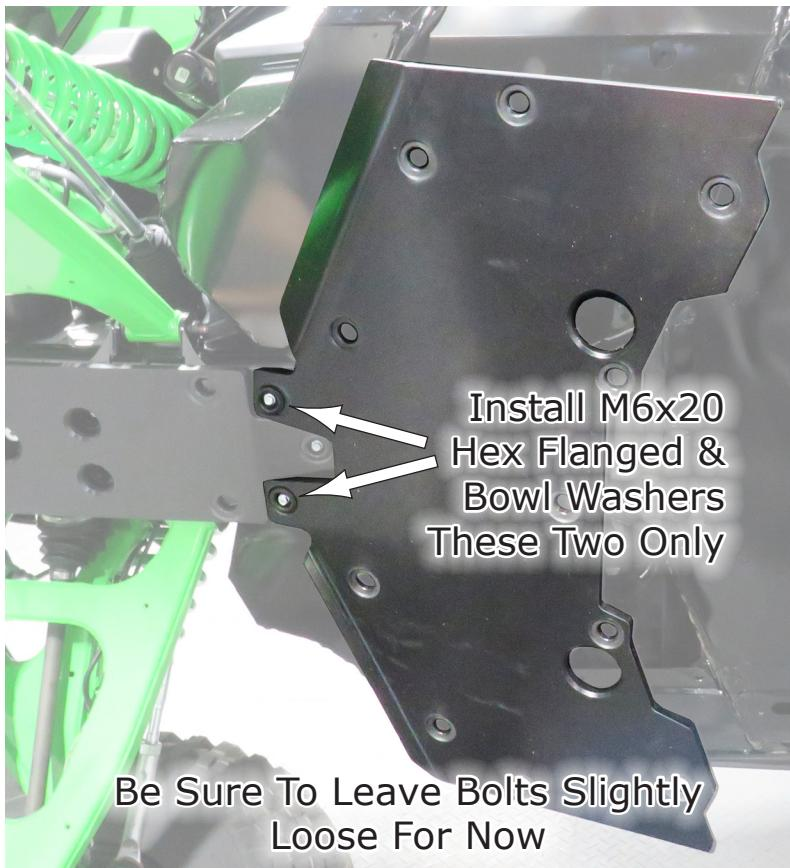
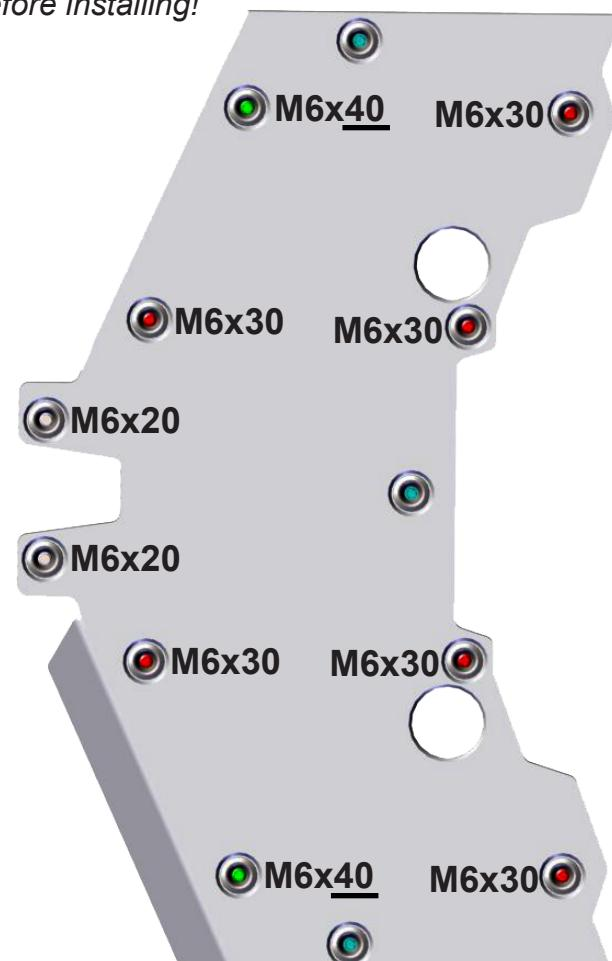

Fig.7a
Fig.7b
7. Now Install Plate #2. This one goes up against #1 using the **M6x20 Hex Flanged Bolts and Bowl Washers** for these two locations only, shown in **Fig.7a**. **Fig.7b** shows the rest of the bolts to install at this time. The unmarked ones will be drilled at the end of the instructions. We'll cover that then.